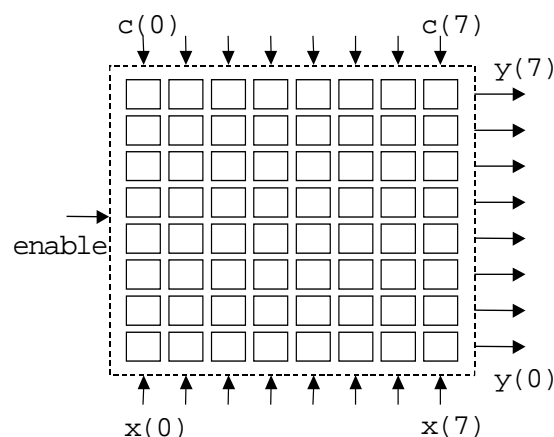

Figure 1
In the crossover switch there are 8 rows of elements, as shown in *Figure 1*. Each row connects to a common output line, *y(j)*. The matrix of elements has 8 control inputs *c(0)*, ..., *c(7)*, each 3 bits wide. The *a* input of each element is connected to the appropriate control input. The *s* input of each element is hardwired to a number equal to the index, *j*, of the corresponding output line *y(j)*. During normal operation, with *enable* = '1', the values on the control inputs determine how signals pass from the *x* inputs to the *y* outputs. If *enable*='0' all elements are switched off.
- (b) Write a VHDL entity declaration `crossover` which describes *Figure 1*.